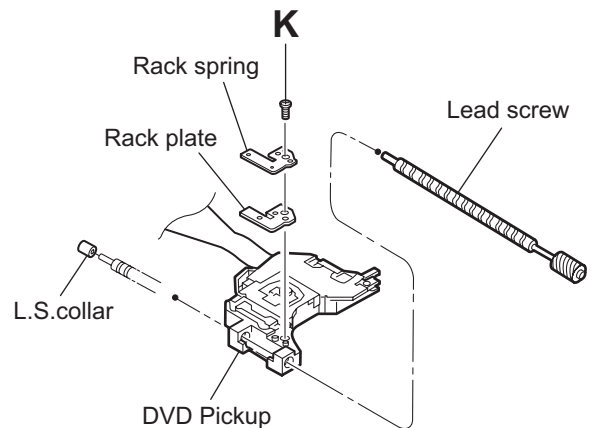

Fig.19
- (4) Remove the screw **K** attaching the rack spring/ rack plate on the DVD pickup. (See Fig.19.)
- (5) Pull out the lead screw. (See Fig.19.)